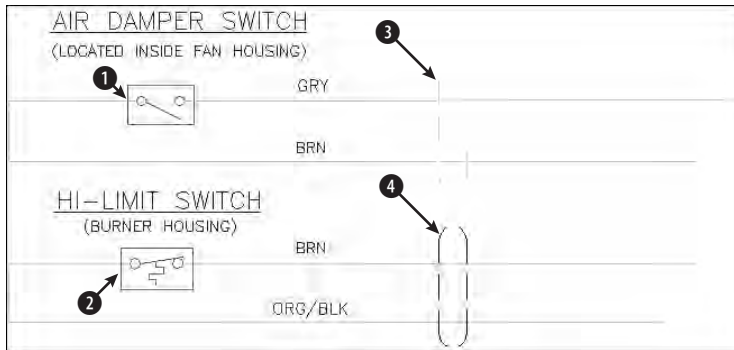

Figure 18-13: The electrical schematic has several blocks that have been inserted.
2. Save the file as `ab18-05.dwg` in your AutoCAD Bible folder. This is the same electrical schematic used in the previous exercise, except that the objects are now blocks that have been inserted. (See Figure 18-13.) OSNAP should be on. Set running object snaps for endpoint, midpoint, quadrant, and intersection. The current layer is Object.
3.  Choose Explode from the Modify toolbar. At the `Select objects:` prompt, choose the air damper switch at ① in Figure 18-13. Press Enter to end selection. The switch turns black or white (the opposite of your screen color) because it was created from objects whose color and linetype were set to ByBlock.
6. Choose the hi-limit switch at ②. Choose Explode from the Modify toolbar. AutoCAD explodes the block onto the Object layer because these objects were created on that layer with their color and linetype set to ByLayer.